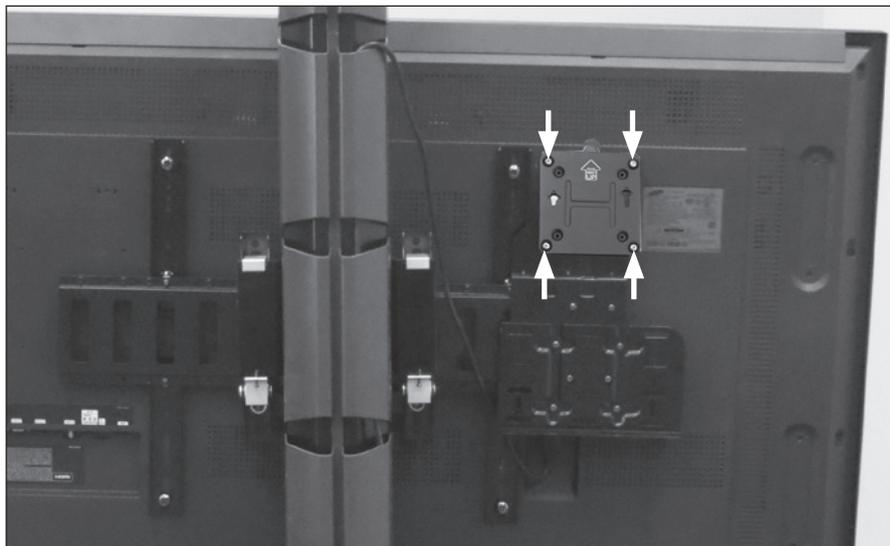

Figure 5: Attaching Computer Mounting Bracket
2. Attach the computer mounting bracket to the CPU Mount. See Figure 5. Secure with the four screws provided in the Hardware Kit. The screws are located in a small bag in the box containing the remote control, Touchscreen Cleaning Kit, stylus, and literature.